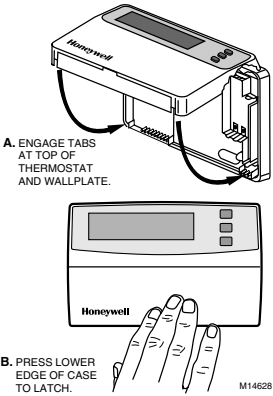

Fig. 3. Mounting thermostat on wallplate.
1. Engage tabs at the top of the thermostat and wallplate. See Fig. 3.